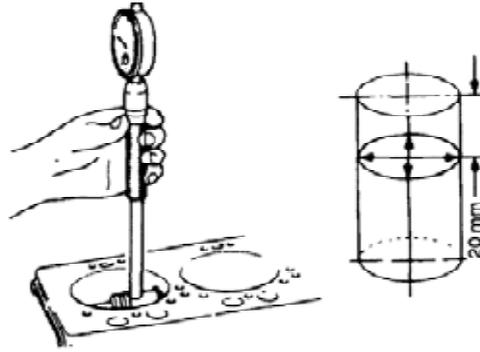

Figure 21 Measuring the Cylinder Bore
- e. Measure the bore of each cylinder liner by inserting an inside diameter micrometer 20 mm down into the cylinder bore. Take a reading from two points approximately 90 degrees apart (Figure 21). The standard bore diameter is 102.021 to 102.2 mm (4.0165 to 4.0236 in). Replace the cylinder liners if they are worn beyond this limit (Paras 19 and 20). Each cylinder liner and piston form a matched set and should not be interchanged. If a cylinder liner replacement is required, the respective piston must also be replaced.